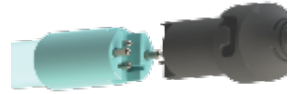

Figure 5. High Output UV Lamp Connection
Step 7: Connecting the lamp. Plug the lamp connector into the lamp. Note the keying for proper alignment (Figure 5). Insert the lamp connector into the gland nut, gently push down then turn the connector approximately ¼ turn clockwise to lock the connector to the gland nut (Figure 6).